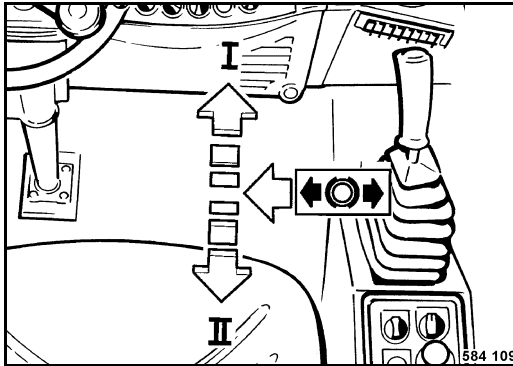

Fig. 57
- Shift the travel lever (Fig. 57) to the left to dis-engage it from braking position.